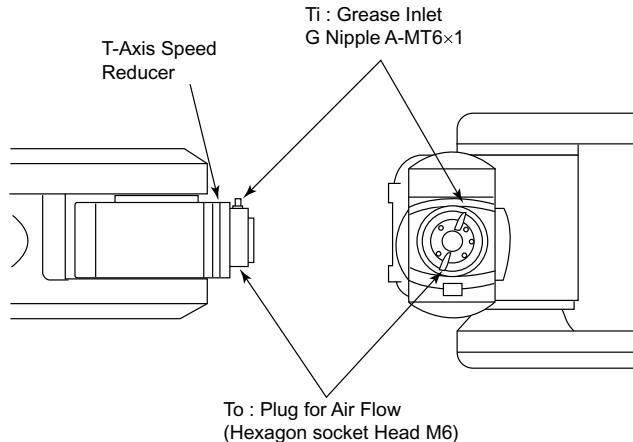

Fig. 28 T-Axis Speed Reducers Diagram
2. Inject grease into the Ti grease inlets using a grease gun. (Refer to " Fig. 28 T-Axis Speed Reducers Diagram ".)